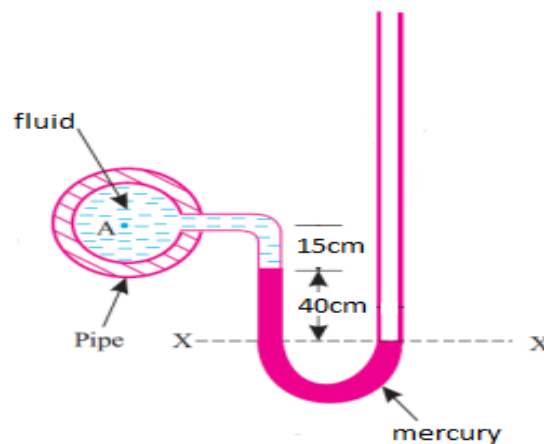

Figure 4(a) / Rajah 4(a)
- CLO2 (a) A simple U-tube manometer containing mercury is connected to a pipe in which a fluid with a specific gravity of 0.8 is under vacuum pressure. Based on Figure 4(a), estimate the vacuum pressure ( $P_A$ ).